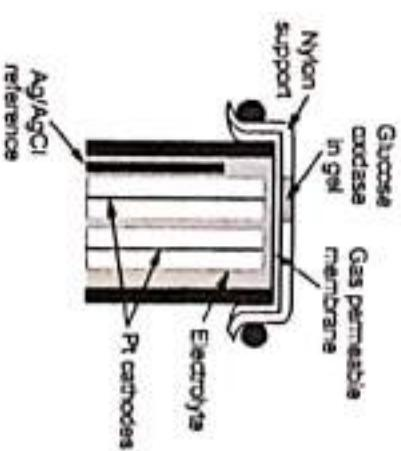

Fig. Q.67.1 Differential biosensor to measure glucose
- Three means are available for measuring glucose concentration with electrochemical transducers : 1) The fall in  $\text{O}_2$  as the reaction proceeds, (2) The production of  $\text{H}_2\text{O}_2$ , and (3) The change in pH with production of D-gluconic acid.
• Fig. Q.67.1 shows differential biosensor to measure glucose using two  $\text{O}_2$  electrodes.